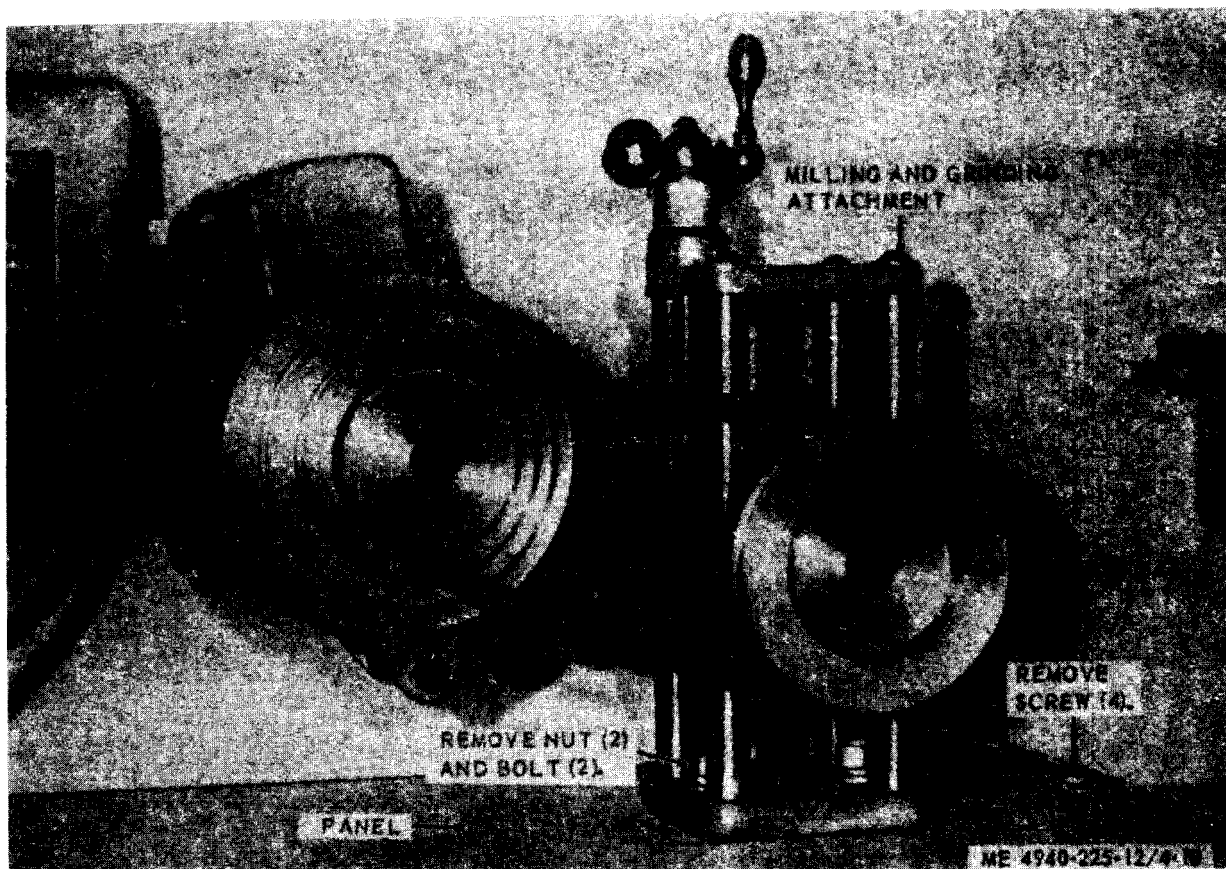

Figure 4-18. Milling and grinding attachment, removal and installation.
(1) Place the milling and grinding attachment on the panel and secure with bolt (2) and nut (2).
(2) Place milling and grinding attachment with panel as shown in figure 4-18, and secure with screw (4).